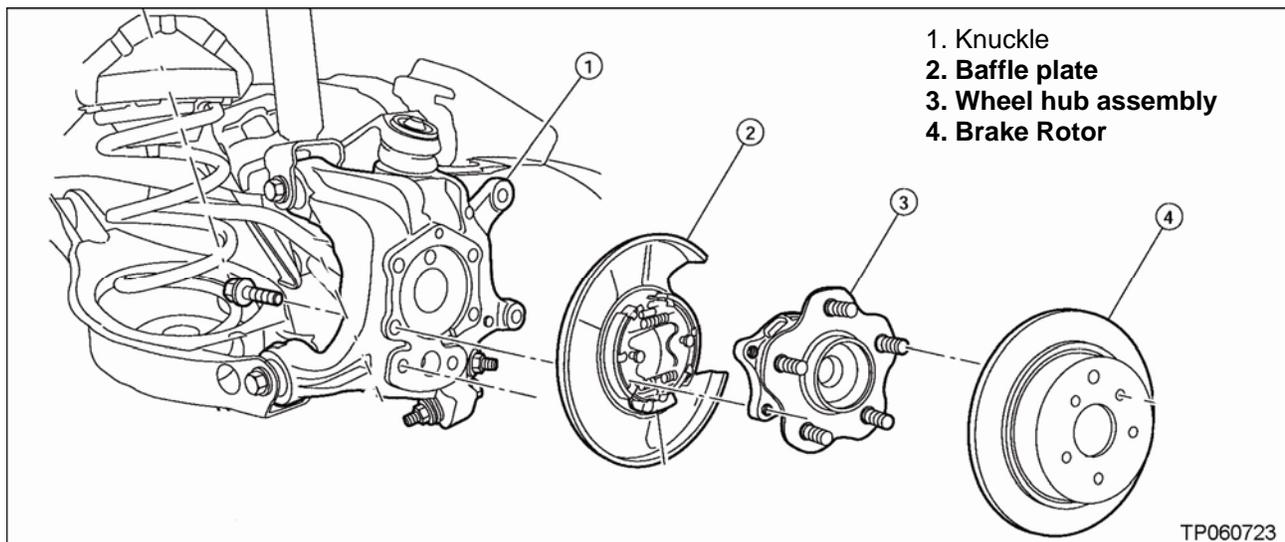

Figure 1
1. Remove only the right rear (passenger side) brake rotor, wheel hub assembly, and baffle plate (see Figure 1).